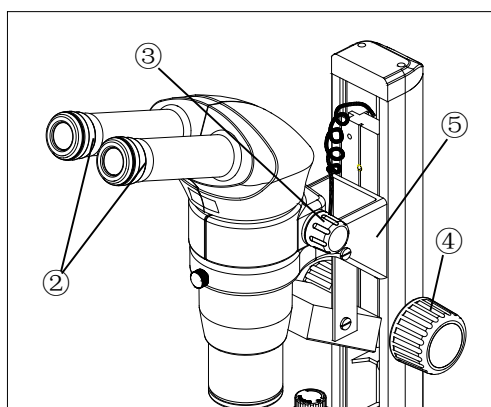
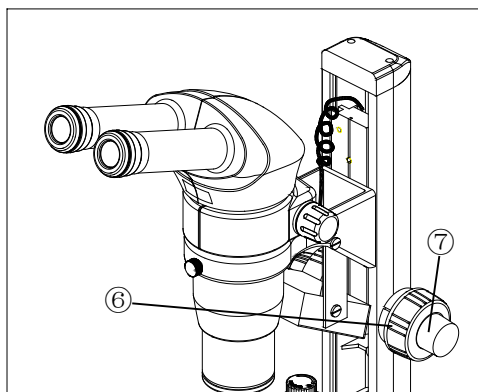

Fig. 11
Fig. 12
3.1.2. Adjusting diopter ring (Fig. 11, Fig. 12)
Fig. 11 shows the focusing part of Stereo Microscope NYMCS-360/361;
Fig.12 shows the focusing part of Stereo Microscope NYMCS-361. There are coarse focusing knob (6) and fine focusing knob (7) in this kind of microscope.
When $2\times$ objective is chosen, it is necessary to mount the binocular head bracket (5) onto the lower position. Remove the clamping bolt with provided hexagonal driver and move the bracket down to the lower position and set it with original bolt (Fig. 11).